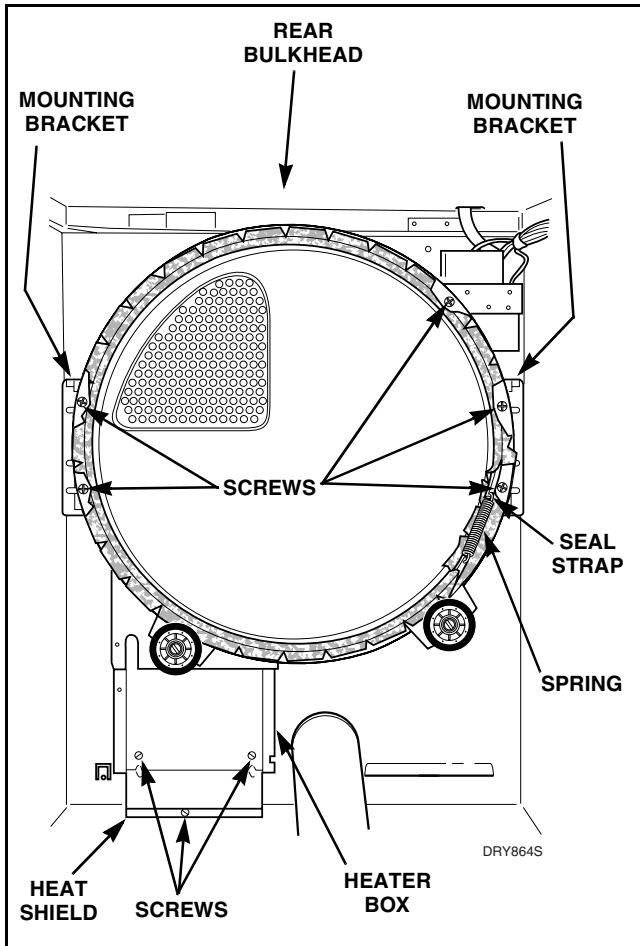

Figure 34
- k. Remove screw holding heat shield to dryer base. Refer to *Figure 34*.
1. Remove one screw holding rear bulkhead to terminal block bracket. While supporting bulkhead, remove the four screws holding rear bulkhead to mounting brackets, then lift complete assembly out of dryer. Refer to *Figure 34*.
- (1) Remove two screws holding heat shield to heater box. Refer to *Figure 34*.